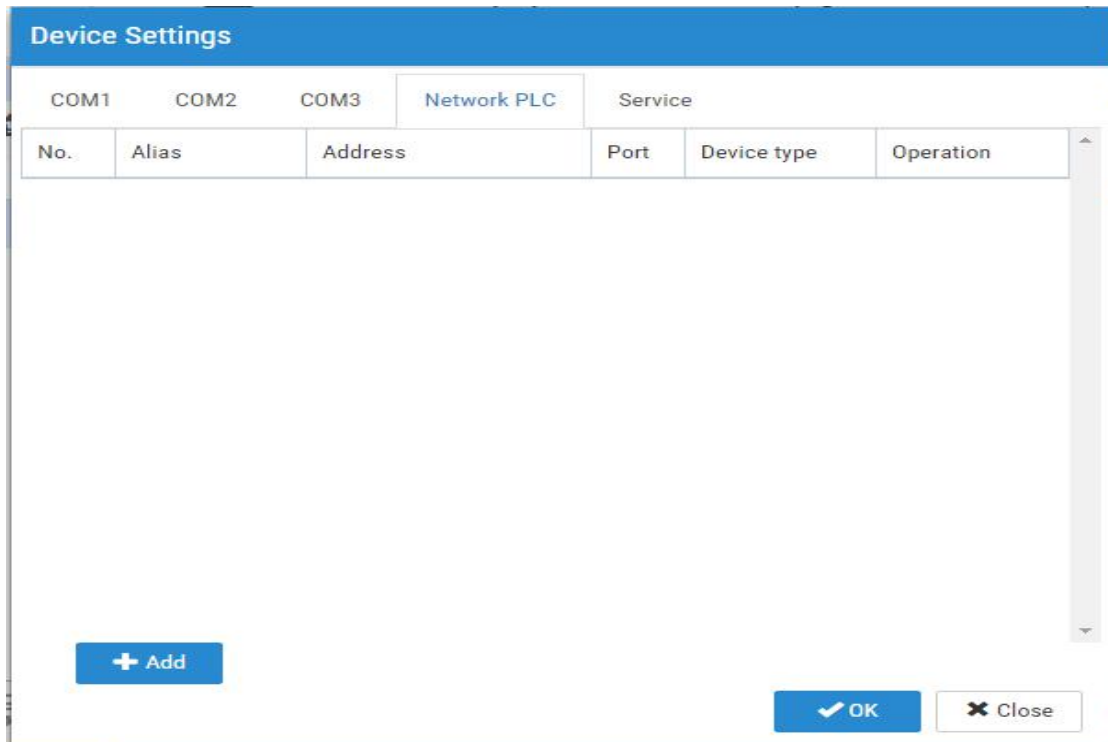

Fig. 4.4-7 The "Network PLC" subtab of the "Device Settings" dialog
(1) After log in the FBoxClient software, select the FBox, which is going to be connected with the field device, in the FBox device list area and click the "Remote" function button in the major functional area. The "Device Settings" dialog will pop up after you click the "Device Settings" button in the "Remote" function page.
(2) Select the "Network PLC" subtab in the "Device Settings" dialog, as shown in Fig. 4.4-7.